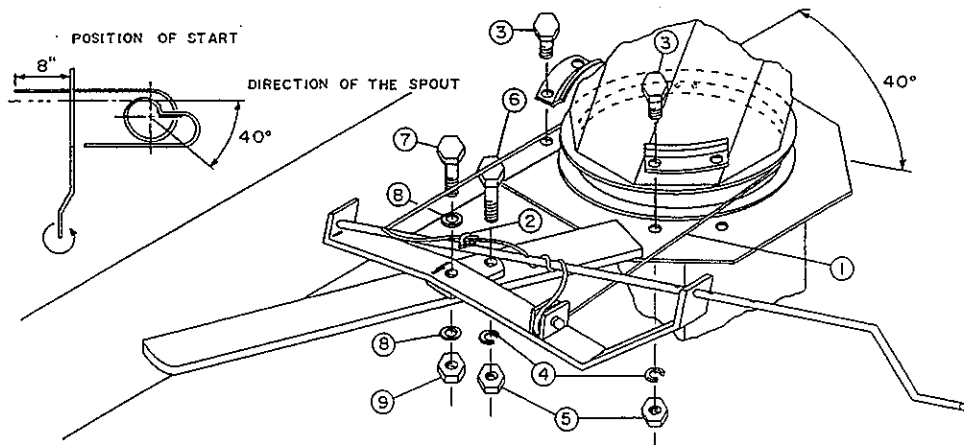

FIGURE 2
1. Install manual rotation bracket to left of chute. Secure with 5/8" x 2 1/2" bolt and nylon lock nut on left (fig.2, item 1) and 1/2" x 1 3/4" bolt, lock washer and nut on right side(fig. 2, item 2).
2. Install one end of rotation system tube over welded pin at on bracket (fig. 2,item 3).